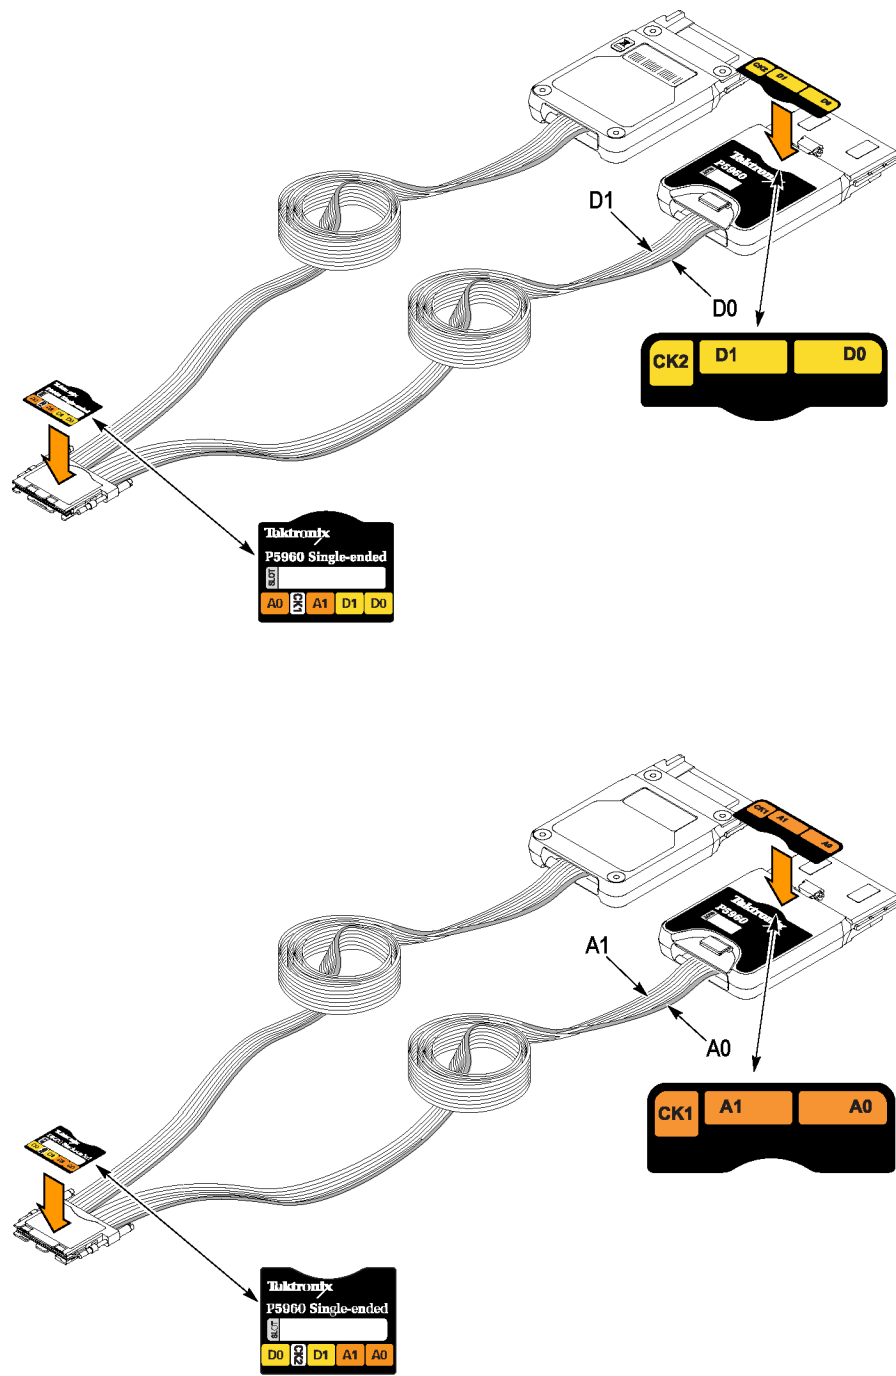

Figure 3: Attaching labels to the P5960 probe
NOTE. Note the indents and the outdents on the probe labels. Use the indents and outdents as guides to position the labels on the probes. (See Figure 3 on page 6.)
3. Locate the probe head and attach the matching colored label to the probe head.(See Figure 3 on page 6.)